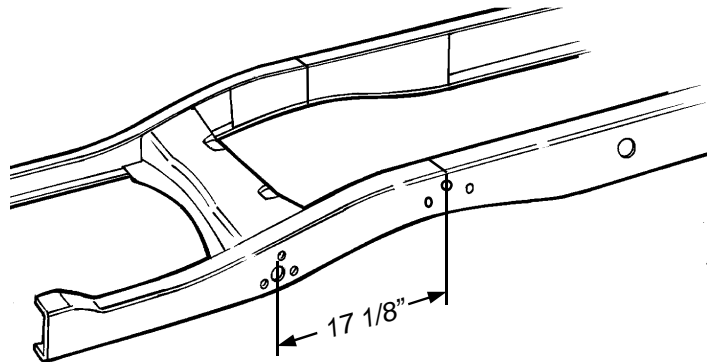

Figure 2
4. Measure back 17 1/8" from the center of the front shackle pivot and make a mark. Now scribe those marks completely around the frame rails. Those scribed lines are the axle centerline for the new crossmember. See Figure 2.